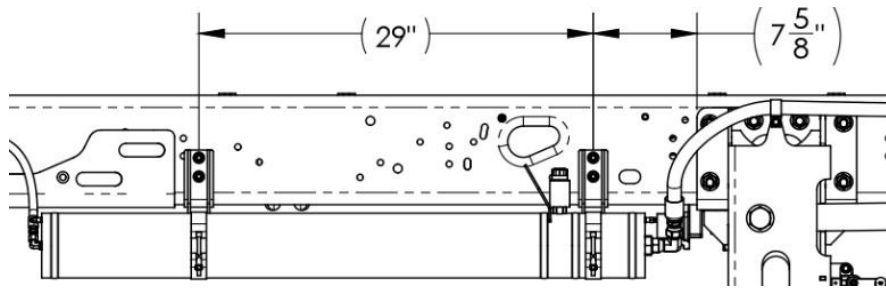

Figure 22: Approximate Locations of Volume Brackets (120" & 108" CA)
1. Place the mounts against the driver side frame, forward of the front hanger. Refer to **Figure 22** if you have a 120" or 108" CA; if you have an 84" CA refer to **Figure 23**.
2. Verifying the mounts are held flush to the bottom of the frame and utilizing the mount hole pattern, mark the locations of the mounting holes and drill (2) Ø7/16" holes per mount.